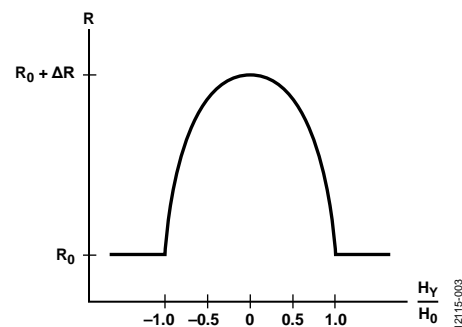

Figure 3. Permalloy Resistance vs. Magnetic Field
First, permalloy has a narrow linear operating region (see Figure 3). Only when the angle ( $\theta$ ) between the magnetization vector (M) and current flow vector (I) becomes larger, does the response become linear. Unfortunately, shortly after the response becomes linear, it saturates.